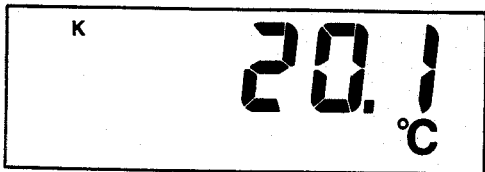

Figure 3. Example Temperature Reading
2. Insert a K-type thermocouple into the input connector. The thermometer will display the temperature of the thermocouple (see Figure 3).